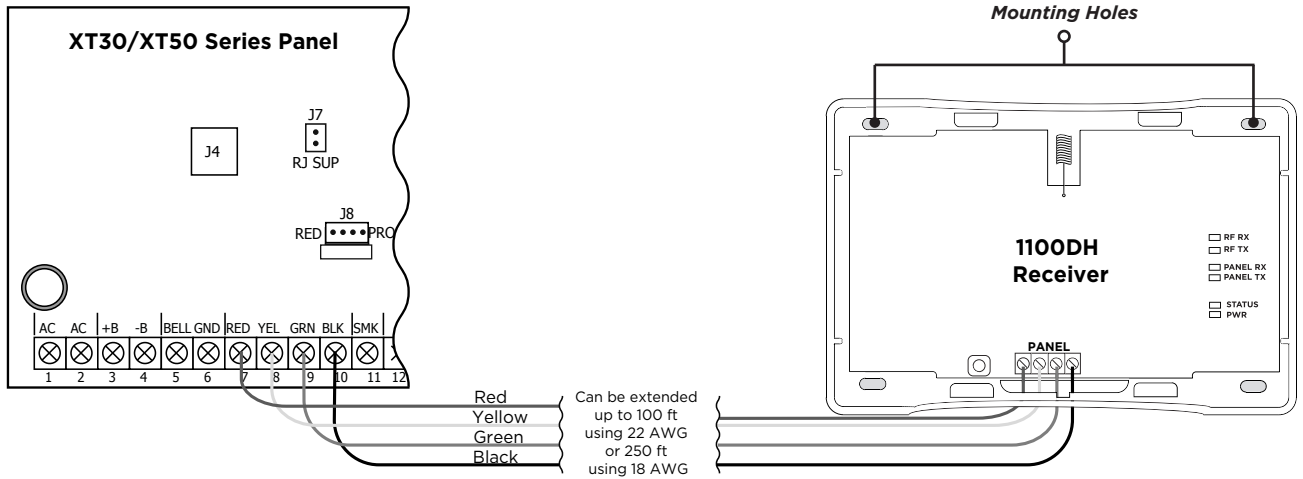

Figure 2: Wiring the 1100DH to the Panel
2. Use the included #6 screws to secure the 1100DH to the wall. See Figure 2 for mounting hole locations.
1. Connect the red, yellow, green, and black wires to the **PANEL** terminal on the 1100DH and connect the other ends to the 7, 8, 9, and 10 terminals on the panel. See Figure 2.
The six labeled LEDs on the 1100DH PCB display wireless receiver operation and activity. See Figure 2 for LED locations and Table 1 for LED indications.